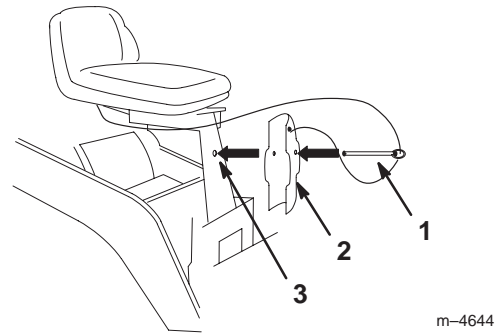

Figure 25
6. Secure the clamp under the backhoe seat by inserting the end of the pin in the clamp into the hole in the seat support (Fig. 25 for Dingo 200/300 series traction units. The Dingo TX has a shorter pin through its clamp).